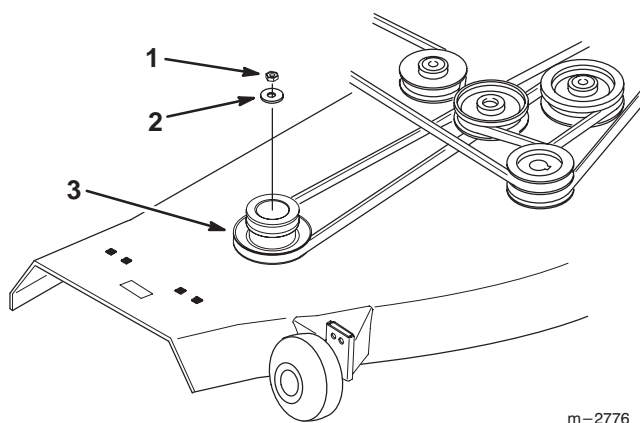

Figure 1
1. Remove the belt, nut and washer from the right-hand spindle pulley and remove the pulley from the spindle. Save the old pulley for installation when the vacuum bagger is removed. (Fig. 1).
2. Install the new dual pulley (provided with the kit) onto the right-hand spindle and belt using the existing washer and nut. Install the new pulley with the larger diameter pulley down (Fig. 1).